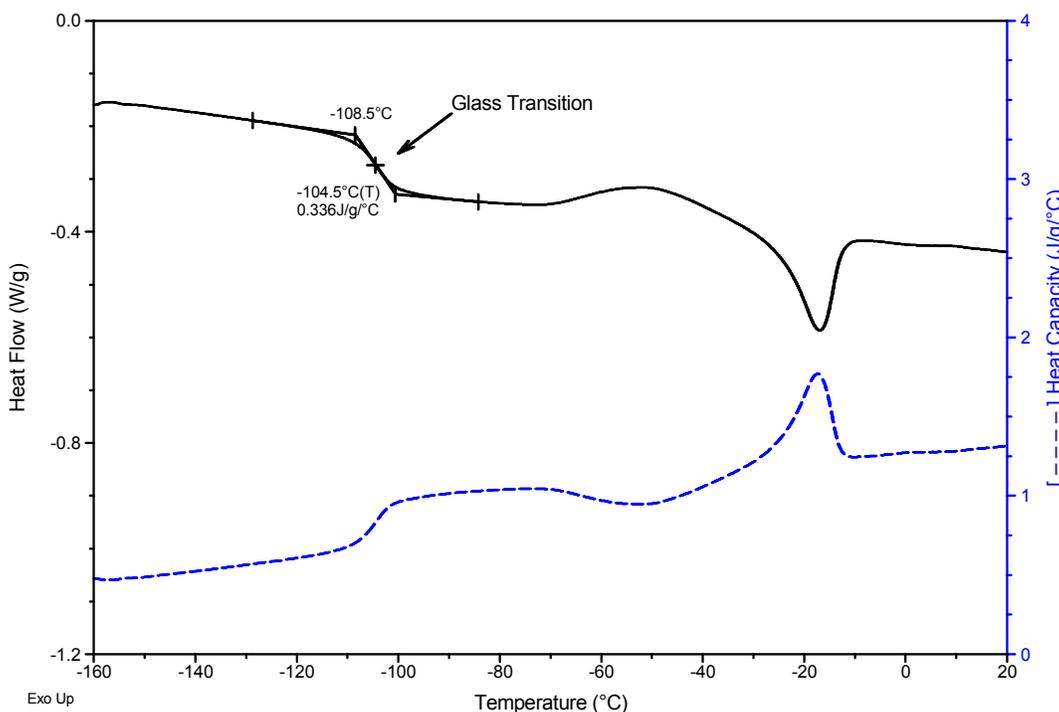

Figure 1 – DSC Curve for 100 % Polybutadiene
The first sample is 100 % polybutadiene. The liquid nitrogen cooling system brings the sample from room temperature to $-170\text{ }^{\circ}\text{C}$ in less than eight minutes, and then the sample is heated at $20\text{ }^{\circ}\text{C}/\text{min}$. The glass transition temperature is clearly seen in Fig. 1 at $-104.5\text{ }^{\circ}\text{C}$, determined as the mid-point of extrapolated tangents. From the experiment, the step in heat capacity can be quantified as $0.336\text{ J}/(\text{g }^{\circ}\text{C})$. At a higher temperature, the amorphous material crystallizes and finally melts at $-17\text{ }^{\circ}\text{C}$ (3).
Figure 1 shows the DSC thermal curve for 100 % polybutadiene sample. The glass transition involves an increase in heat capacity of $0.336\text{ J}/(\text{g }^{\circ}\text{C})$. This value is used as a calibration function for the quantification of amorphous polybutadiene.